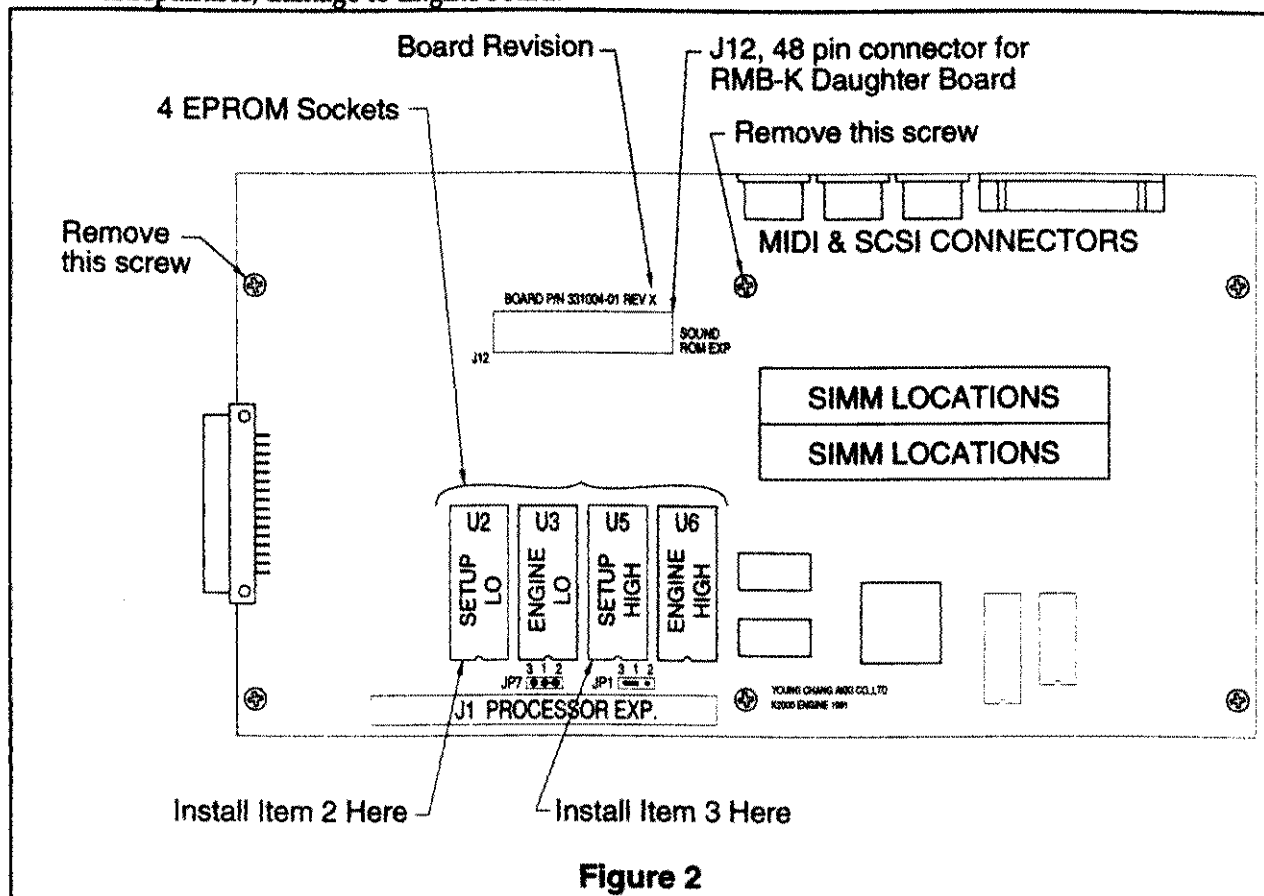

Figure 2
2. See Figure 2. Looking at the Engine PCB with the MIDI & SCSI connectors facing away from you, locate the four EPROM sockets. They are on the lower left half of the board above J1, the 64 pin connector labeled "PROCESSOR EXP".
3. See Figure 2. Find the two setup EPROM sockets. The two sockets will have EPROMs already installed in them if you have Engine Software 2.x. If there are EPROMs present then use an EPROM puller to carefully remove them from their sockets.
4. See Figure 2. Take Item 2, Setup **LO** EPROM, and place it into the left-most socket. Be sure that the notch in the EPROM indicating pin one is facing J1. Gently push the EPROM into the socket, making sure that all pins are inserted correctly. Be careful not to bend any pins.
5. See Figure 2. Take Item 3, Setup **HIGH** EPROM, and place it into the second socket from the right. Be sure that the notch in the EPROM indicating pin one is facing J1. Gently push the EPROM into the socket, making sure that all pins are inserted correctly. Be careful not to bend any pins.
6. See Figure 2. Looking at the Engine PCB with the MIDI & SCSI connectors facing away from you, locate J12, the 48 pin connector labeled "SOUND ROM EXP". It is to the left of the SIMM sockets and above the software and setup EPROMS.
7. See Figure 2. Remove the two Engine PCB mounting screws to the left and right side of J12, the 48 pin connector labeled "SOUND ROM EXP" and discard them. You will be using replacement screws, supplied with the kit, later on in the installation.
12. See Figure 2. Identify what type and revision Engine Board is in the unit. The revision of the board is silk-screened above J12, the 48 pin connector labeled "SOUND ROM EXP". This connector is to the left of the SIMM sockets. On Calvin boards, the silk-screen says "BOARD P/N 331004-
13. See Figure 2. If the type and revision of the Engine Board is "Janis" or "Calvin C", you may have to install a wire jumper. Locate JP7 between the four EPROM sockets and connector J1, the 64 pin connector labeled "PROCESSOR EXP.". A jumper header may be installed or there may just be 3 pads.
14. See Figure 2. If there is a jumper header, then install Item 8, Push-on Jumper, on pins 1 and 2, the middle and right pins.
5. See Figure 2. Looking at the Engine PCB with the MIDI & SCSI connectors facing away from you, locate the four EPROM sockets. They are on the lower left half of the board above J1, the 64 pin connector labeled "PROCESSOR EXP."
6. See Figure 2. Find the two setup EPROM sockets U2 & U5. The two sockets will have EPROMs already installed in them if you have Engine Software 2.x. If there are EPROMs present then use an EPROM puller to carefully remove them from their sockets.
7. See Figure 2. Take Item 2, Setup **LO** EPROM, and place it into the left-most socket. Be sure that the notch in the EPROM indicating pin one is facing J1. Gently push the EPROM into the socket, making sure that all pins are inserted correctly. Be careful not to bend any pins.
8. See Figure 2. Take Item 3, Setup **HIGH** EPROM, and place it into the second socket from the right. Be sure that the notch in the EPROM indicating pin one is facing J1. Gently push the EPROM into the socket, making sure that all pins are inserted correctly. Be careful not to bend any pins.
9. See Figure 2. Looking at the Engine PCB with the MIDI & SCSI connectors facing away from you, locate J12, the 48 pin connector labeled "SOUND ROM EXP". It is to the left of the SIMM sockets and above the software and setup EPROMS.
10. See Figure 2. Remove and save the two Engine PCB mounting screws to the left and right side of J12, the 48 pin connector labeled "SOUND ROM EXP".
15. See Figure 2. Identify what type and revision Engine Board is in the unit. The revision of the board is silk-screened above J12, the 48 pin connector labeled "SOUND ROM EXP". This connector is to the left of the SIMM sockets. On Calvin boards, the silk-screen says "BOARD P/N 331004-01 REV. X", where "X" is the revision of the board; on Janis boards, the silk-screen says "BOARD P/N 331030".
16. See Figure 2. If the type and version of the Engine Board is "Calvin C" or "Janis", locate JP7 between the four EPROM sockets and connector J1, the 64 pin connector labeled "PROCESSOR EXP.". A jumper header may be installed or there may just be 3 pads.